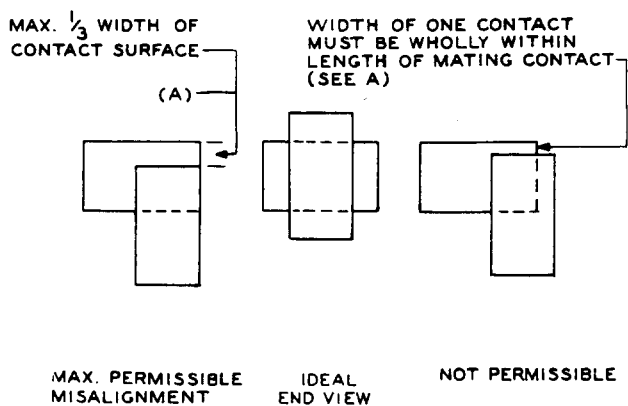

Fig. 4—Alignment of Heavy Contacts—Plan View of Contact Surfaces
**3.05 Contact Alignment:** Fig. 4, (A)—The contact alignment shall be within the limits indicated in Fig. 4.